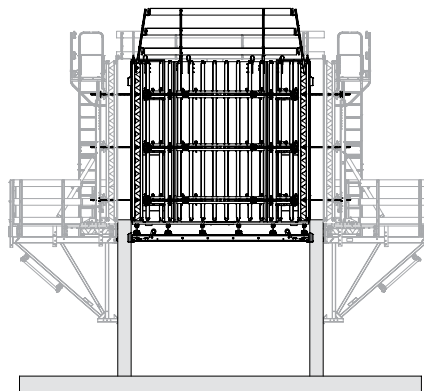

Fig. A4.02
9. Concrete the second section. (Fig. A4.02)